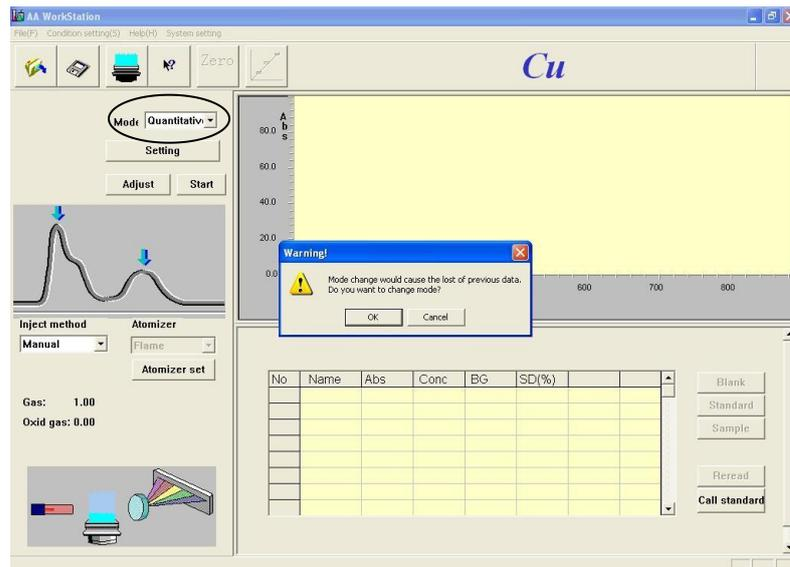

Figure 5-1b
4. As shown in Figure 5-1b, select "Quantitative analysis" in the pull-down list.